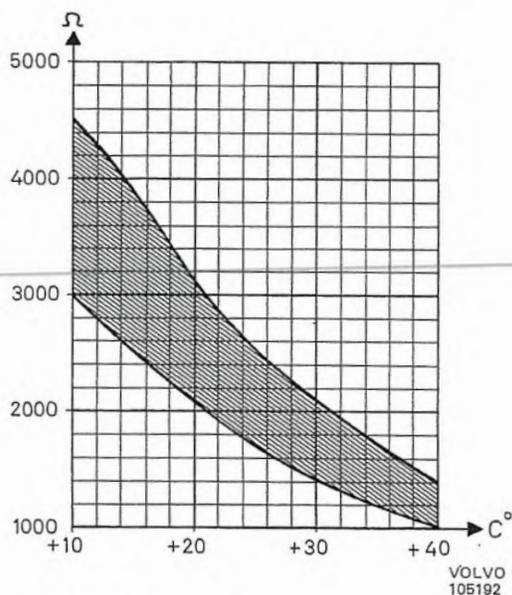

Fig. 2-104. Resistance in temperature sensor for coolant
1. Measure the resistance between the terminal pins and compare with the table, see Fig. 2-104.